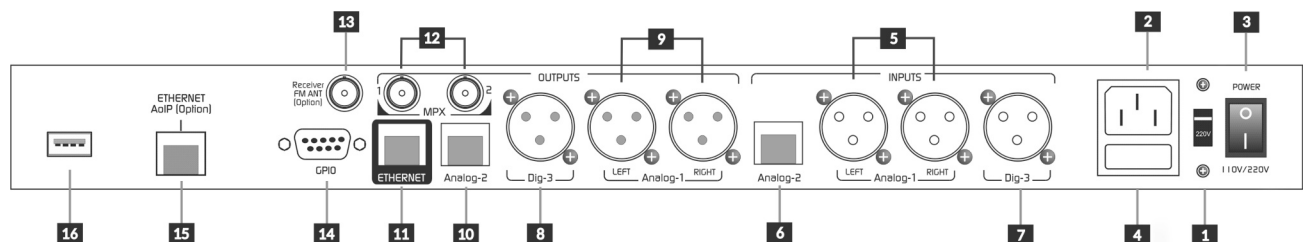

Figure 1- Rear Panel
<p>For this, follow this steps:</p> <ol style="list-style-type: none"> 1. The 542APC processor must be connected to the LAN using the port Ethernet for remote control (see ref.11 in Figure 1). 2. The processor must have the reception antenna installed. For details about the receiver and the antenna please refer to 2.4 – FM Antenna. 3. Check the access to the processor. Using a computer connected to the same LAN, run a web browser and enter the IP address showed in the OLED display. 4. Using the same computer, download the software TeamViewer QuickSupport: https://get.teamviewer.com/solidynequick 5. Run the downloaded file TeamViewerQS.exe. The computer will connect with the Solidyne's Technical Assistance team, who will be able to take control of the computer to access the processor. The "Allow remote control" window is displayed on the screen, including a chat with the Support team. <p>In order to coordinate the assistance, please contact to:</p> <ul style="list-style-type: none"> • suporte@solidyne.ar • Whatsapp +54 9 11 3119-3254